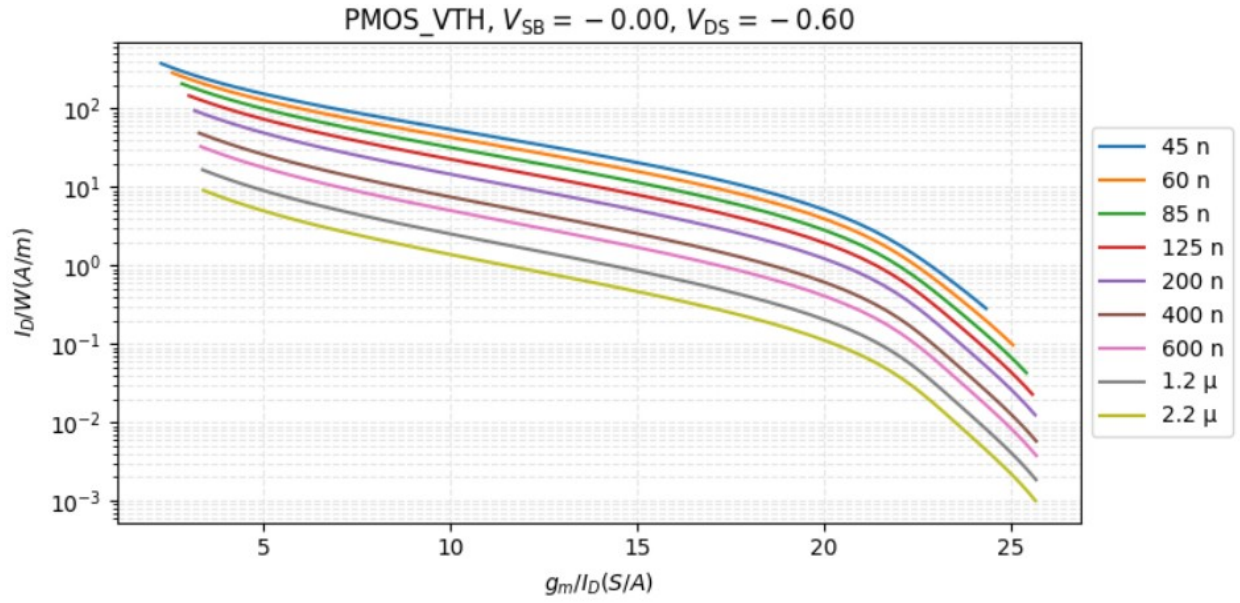

Figure 2: I_D/W vs g_m/I_D plot (LUT) of PMOS
- Since we know $I_{D,M5} = 2 I_{D,M1} = 1.2 \text{e-}3 \text{ A}$, already from the calculation of M1, from I_D/W vs g_m/I_D plot (LUT) of PMOS Figure 2 we determine (there could be some other different candidates)